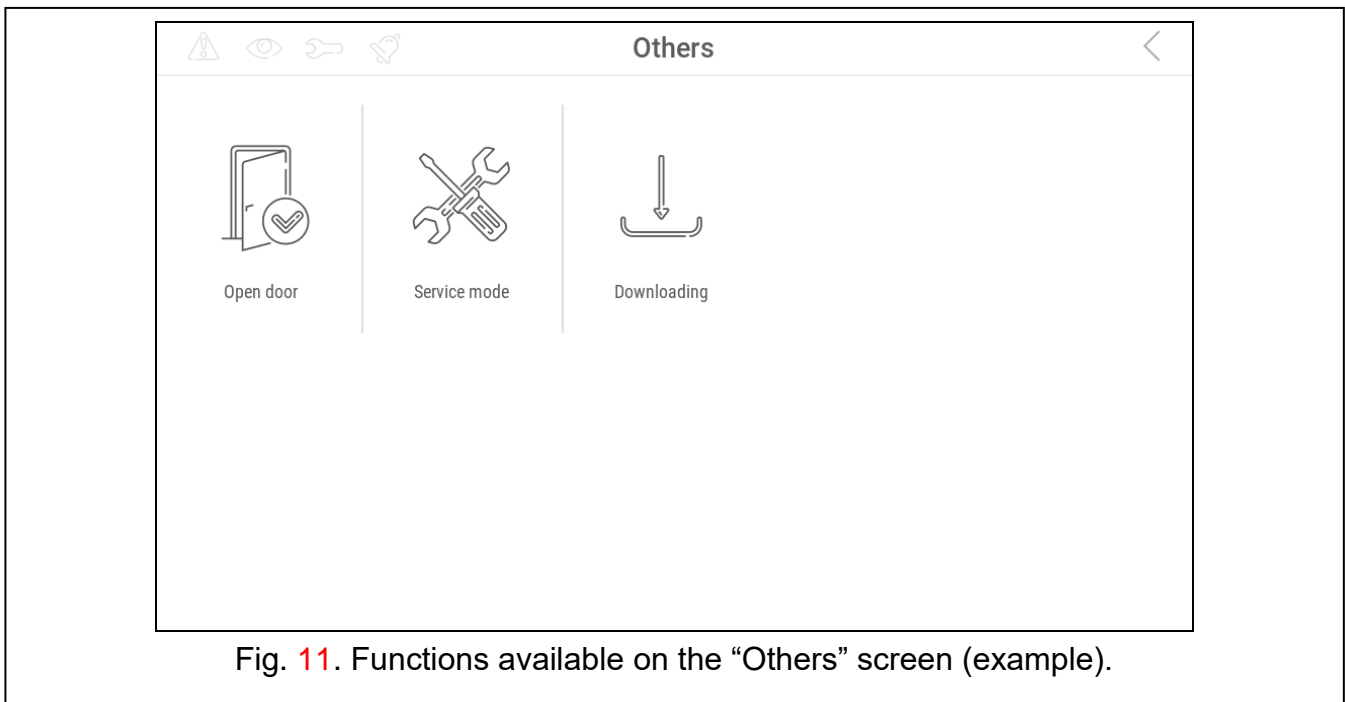

Fig. 11. Functions available on the "Others" screen (example).
4. Tap the "Others" function. A list of functions will be displayed (Fig. 11).